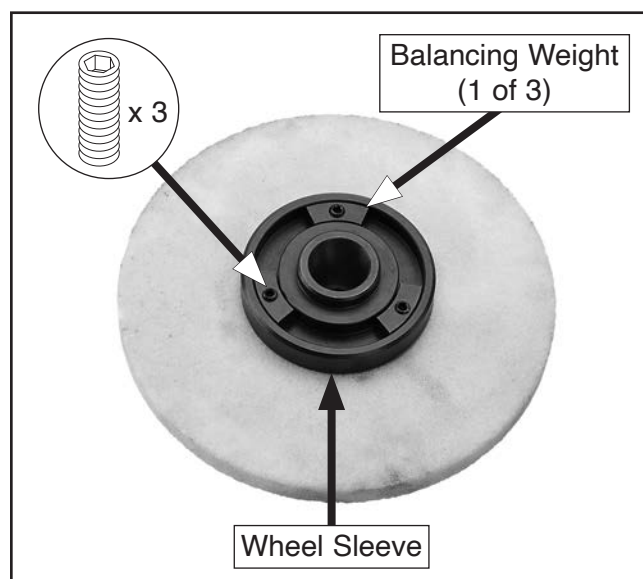

Figure 41. Weights evenly distributed around wheel sleeve groove.
5. Loosen (3) balancing weight set screws, position weights evenly around wheel sleeve groove, then tighten set screws (see **Figure 41**).